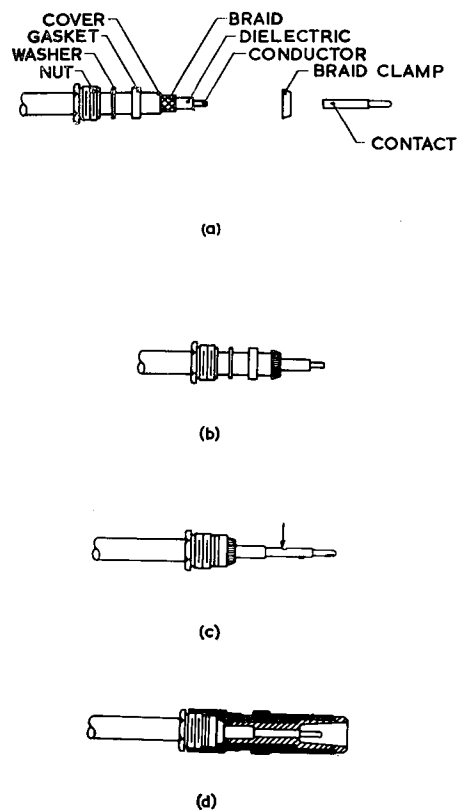

Fig. 8. Wiring method for HV coaxial connectors
(d) Comb out the braid, tin the conductor. If a 90 deg. contact is being wired, bend the conductor at right angles (fig. 8 (b)).
(4) HV coaxial sockets (fig. 8).
(c) Trim the cable to the dimensions shown (fig. 8 (a) and Table 4).
(d) Slide the braid clamp over the braid. Fold the braid over the clamp, and tin the end of the conductor (fig. 8 (b)).
(e) Insert the tinned end of the conductor into the solder pot on the contact, and solder, making certain that the dielectric butts against the end of the solder pot. Remove any loose material from the contact (fig. 8 (c)).
(f) Fold the braid evenly over the braid clamp. Slide the body into place, ensuring that the contact enters the hole in the insulator. Slide the gasket and washer forward by pushing the nut, and tighten the nut (fig. 8 (d)).